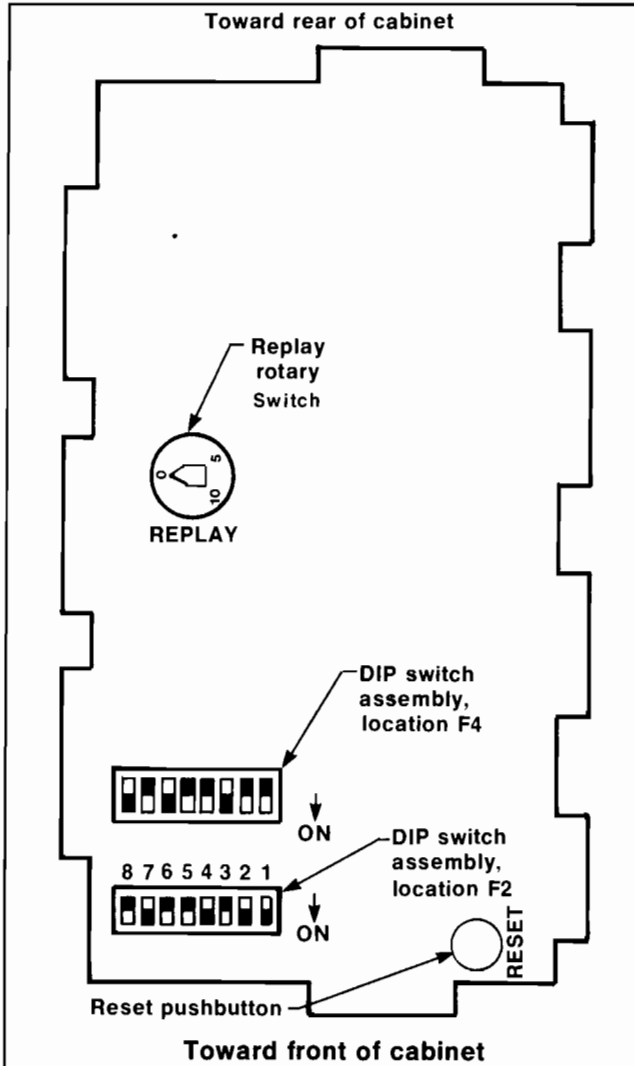

Figure 6 Locations of Operator Option Switches on Processor PCB
- Step 4) Locate the switches on the board, as shown in Figure 6.